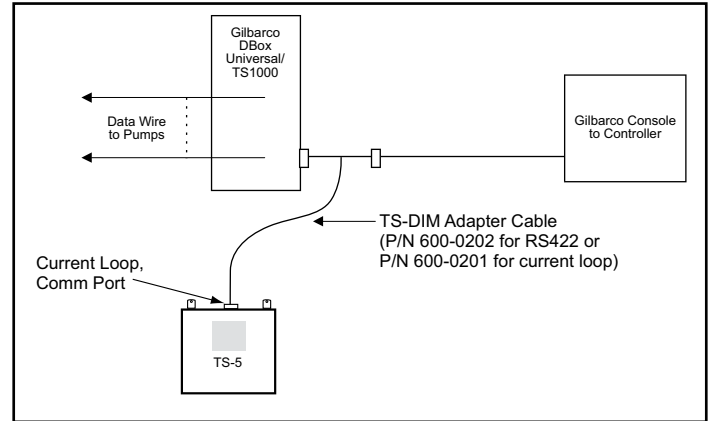

Figure 1: Connecting to Gilbarco D-Box Universal/TS1000
- **If the Gilbarco system uses a current loop style Universal D-Box or a TS1000 D-Box**, disconnect the Gilbarco console/controller from the distribution box and connect the Gilbarco style Dispenser Interface Module Cable (p/n 600-0201) to the Gilbarco D-Box. Plug the long end of the Dispenser Interface Module Cable (p/n 600-0201) into the TS-5 series CURRENT LOOP communication port (Figure 1).
- **If the Gilbarco system uses an RS422 style Universal D-Box**, disconnect the Gilbarco console/controller from the D-Box and connect the Gilbarco style Dispenser Interface Module Cable (p/n 600-0202) to the Gilbarco D-Box. Plug the long end of the Dispenser Interface Module Cable (p/n 600-0202) into the TS-5 series RS422/232 communication port (Figure 1).